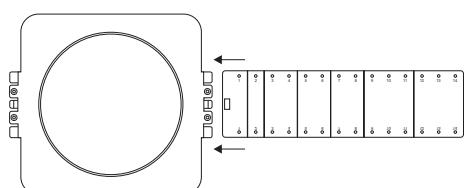

fig.1
1. Once you've selected the desired location for the speaker, begin by installing the iCB6 or iCB8 mounting bracket between adjacent ceiling joists. First attach the mounting wings to the bracket by inserting them into the locking plastic tabs in the side of the bracket (fig.1).